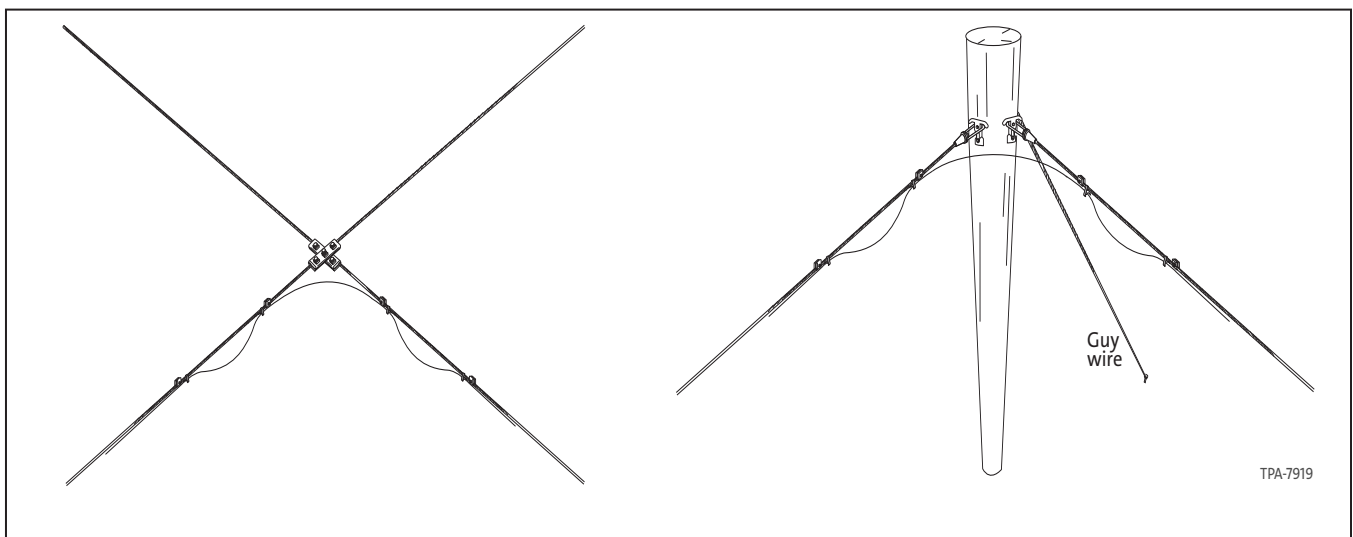

Figure 13 - crossover left and deadend
1. As with copper cables, fiber optic cables should be routed on the inside of messenger intersections at aerial crossovers and deadends (Figure 13). This practice, along with drip loops, will minimize the chance of damage should a pole in the cable route be damaged. Be sure to respect the cable's minimum bend radius whenever the span makes a directional change.